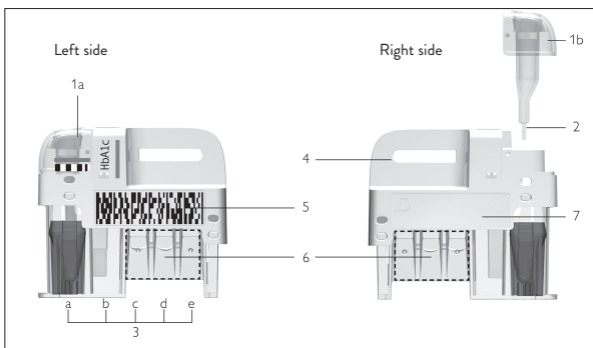

Figure 1 Afinion HbA1c Test Cartridge.
- Do not touch the test cartridge optical reading area (figure 1).